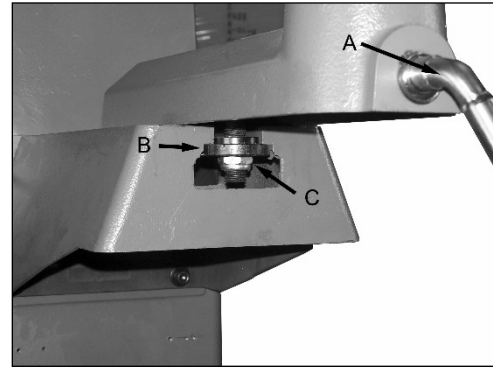

Figure 6
2. Install the outboard tool rest holder (optional) onto its bed by sliding it into the end of the bed as shown in Figure 6. Line up the pressure disc B with the T-slot of the